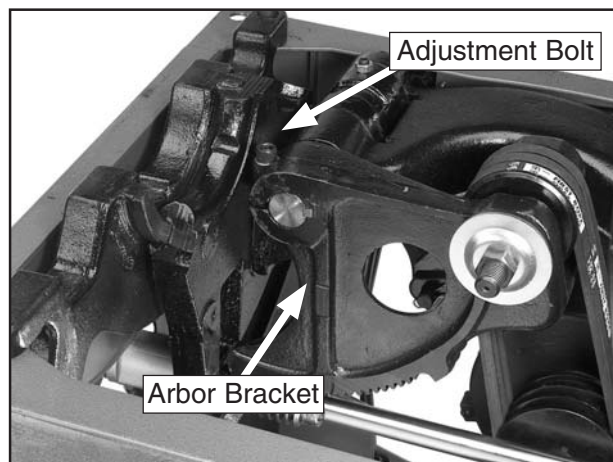

Figure 33. Arbor bracket adjustment locations.
6. The arbor bracket and motor pulley needs adjusting. Loosen the adjustment bolt shown in **Figure 33**, and slowly slide the arbor bracket towards the end of the shaft.